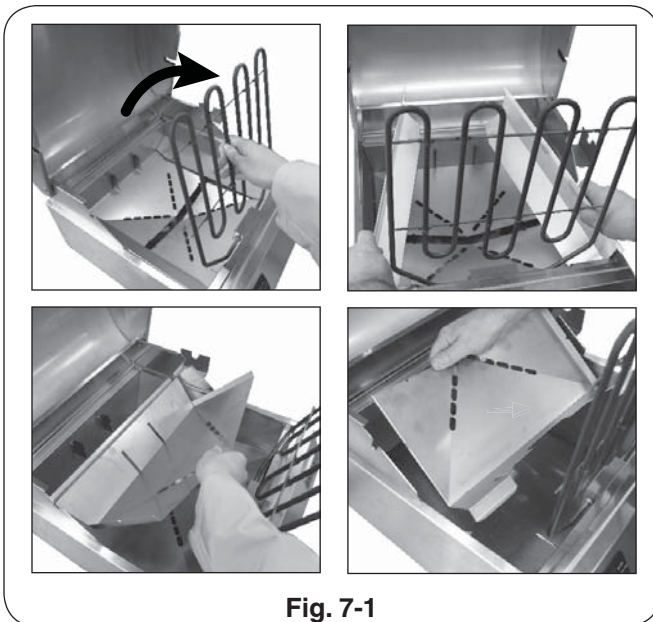

Fig. 7-1
1. Remove the warming rack and cooking grids. Grasp the cool cooking element and apply pressure towards the right of the grill. Once it clears the tab, completely raise it up. Lift the two side liners up and out (Fig. 7-1).
2. Lift the rear liner slightly up to clear the tab, then forward and out (Fig. 7-1).
3. Move the front liner slightly toward the back of the grill, then lift up and out (Fig. 7-1).